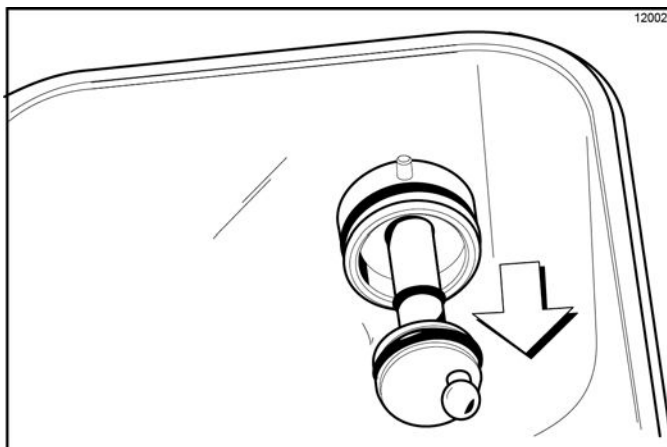

Figure 6-120
9. Remove the pump driveshaft from the drive hub in the rear wall of the mix hopper. (See Figure 6-120.)